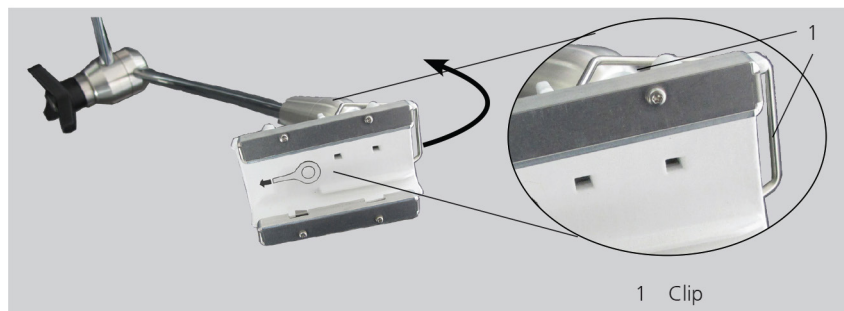

Fig. 4-11 Clip for releasing the applicator
- Pull the clip (Fig. 4-11) in the direction of the joint and pull the applicator out of the cradle at the same time.